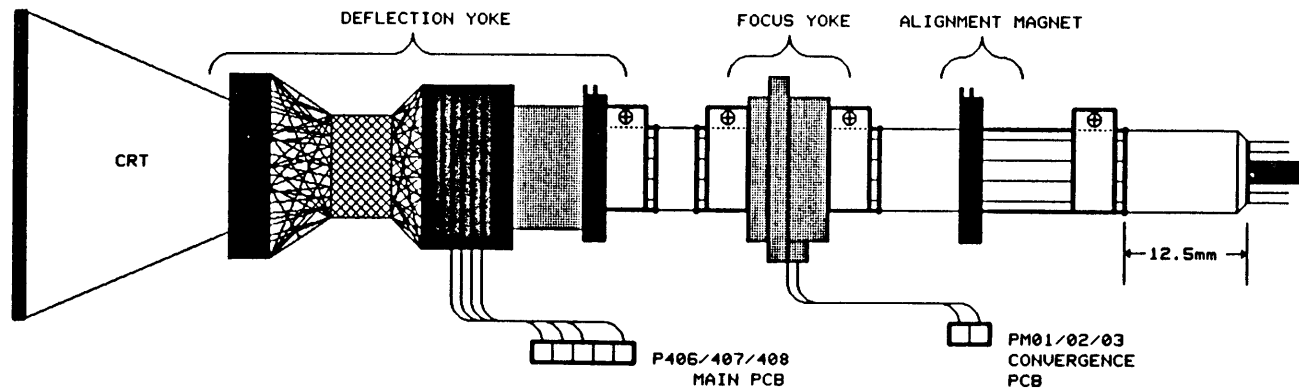

FIG. 1
Names and mounting positions of neck components of the projection tube are illustrated in Fig. 1. The neck components are (1) Deflection yoke (consisting of the main yoke, sub-yoke and centering magnet), (2) Focusing yoke, and (3) Alignment magnet.